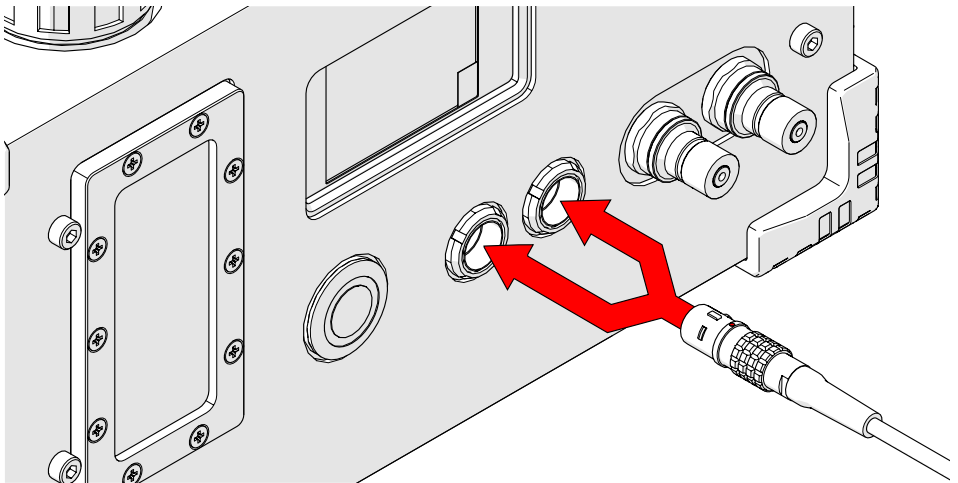

Fig. 11 - Plug into AUX port
1. Align the connector's red dot with the top of the **AUX** port. Press the connector into either **AUX** port on the Cooler (Fig. 11).